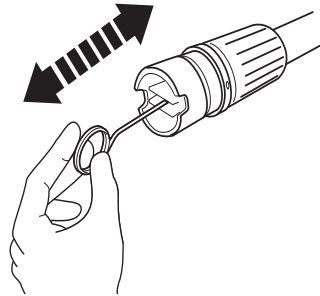

Fig. 20, pressure lance
- > Remove any dirt deposits from the nozzle (1a) hole using a cleaning needle (13) (Fig. 20).